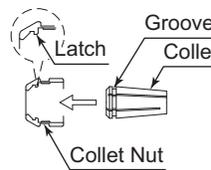
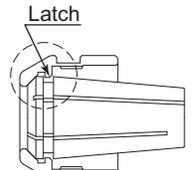

Fig. 7
Fig. 8
- ③ To install the collet, hold the collet at a slight angle, and insert it into the collet nut (Fig. 7). Press the collet in the collet nut and positioning the collet in the collet nut and pressing down on flat surface (Fig. 8).
Be sure to fully engage the latch inside the collet nut into the groove on the collets outer circumference area (Fig. 8).